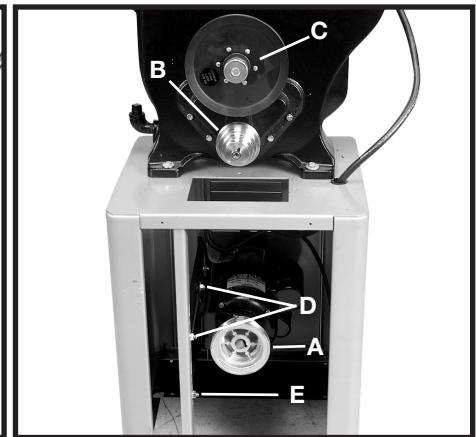

Fig. 9
1. Use a straight edge to align the inside grooves of the pulleys (A) and (B) Fig. 9 to the inside edge of the drive pulley (C). The pulleys can be moved in or out on the shafts and the motor can also be moved.
3. Attach the largest V-Belt to the inside groove of the motor pulley (A) Fig. 9 and to the drive pulley (C) Fig. 9. Attach the smaller V-Belt to any one of the remaining three grooves of the motor pulley (A) and the corresponding groove of the gear box pulley (A). (Fig. 10B shows belts in place. Belt and pulley guard was removed for clarity.)
4. Adjust the belt tension by raising or lowering the motor on the motor mounting bars (D) Fig. 9. If necessary, the motor mounting can be repositioned on the two posts (E) Fig. 9. Keep the pulleys in alignment when performing this operation. With light finger pressure, a 1" deflection in the belt at the center span of the pulleys indicates the proper tension.